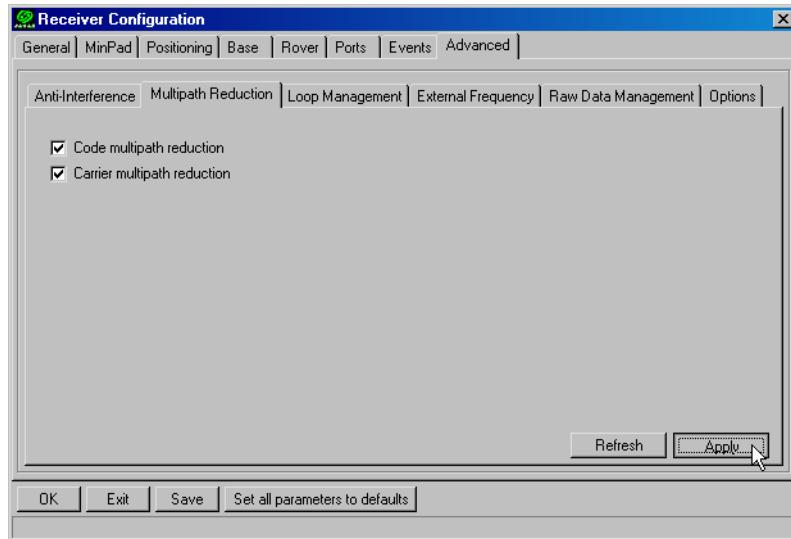

Figure 2-16. Advanced Configuration – Multipath Reduction
4. Click the **Advanced** tab on the **Receiver Configuration** screen and then click the **Multipath Reduction** subtab. Enable the following boxes, and click **Apply** (Figure 2-16 on page 2-17):